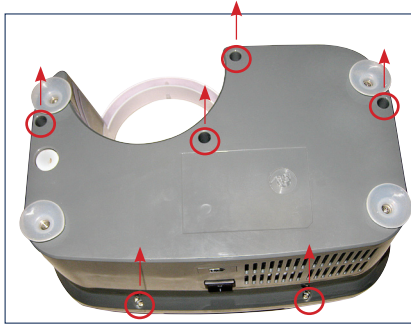

Figure 1
- 1) Remove all six (6) screws and open the unit, figure 1.